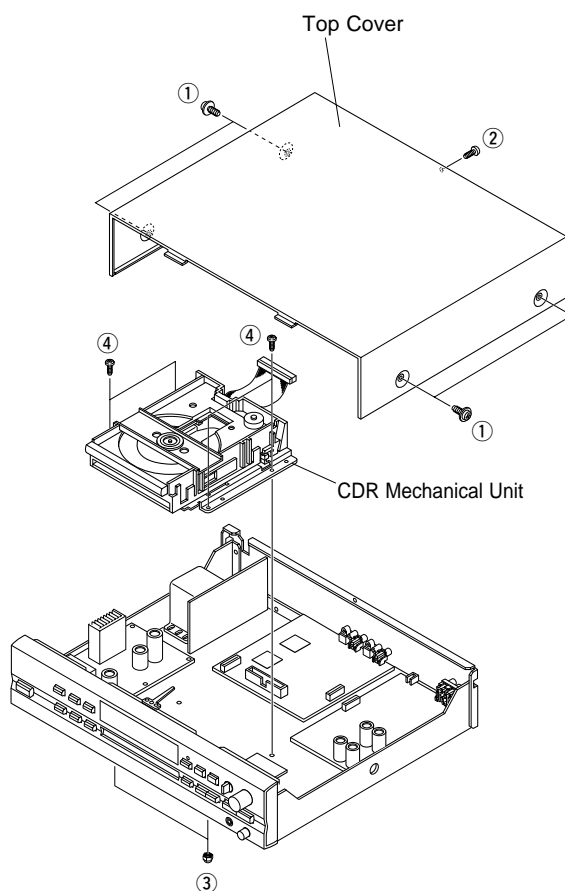

Fig. 1
b. Remove 4 screws marked ① and 1 screw marked ②, and the Top Cover can be removed. (Fig. 1)
d. Remove 2 hexagonal cap nuts marked ③. (Fig. 1)
e. Remove 4 screws marked ④, and take out the CDR mechanical unit. (Fig. 1)